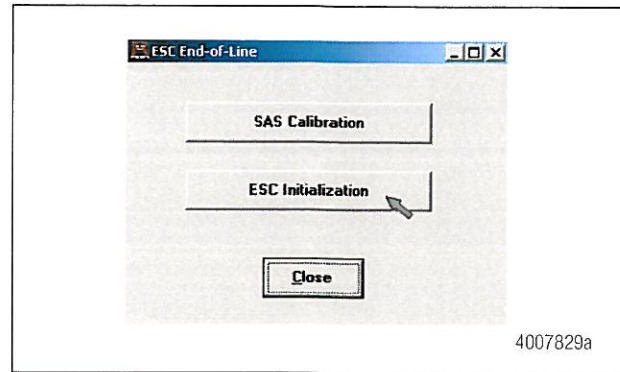

Figure 19
4. Click on ESC Initialization. Figure 19.